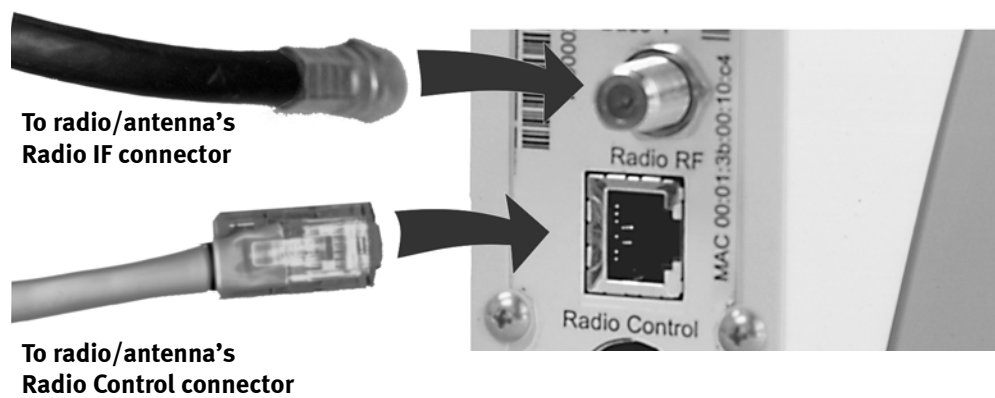

Figure 1-7 *Connections to the Indoor Unit*
4. Attach the cable to the **Radio IF** connector on the Indoor Unit as illustrated in *Figure 1-7*.
6. Attach the cable to the **Radio Control** connector on the Indoor Unit as shown in *Figure 1-7*.